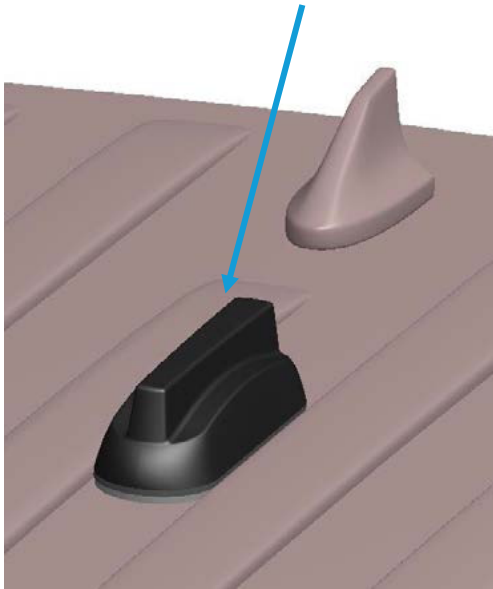

Figure 4
1. The recommended orientation is facing the front of the vehicle with cables facing the rear. Refer to Figures 4 and 5.